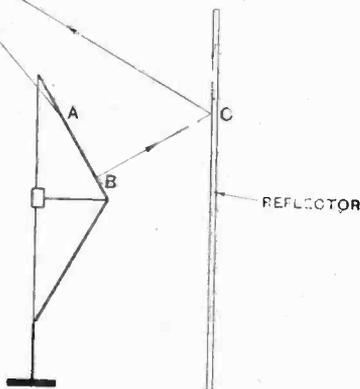
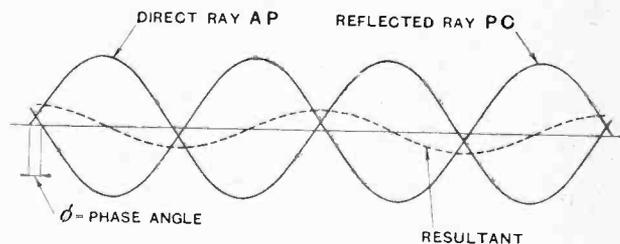

Fig. 4.—Diaphragm loud-speaker with reflector.
Fig. 5.—Curves illustrating low-frequency interference between rays A P and P C in Fig. 4.
The explanation of the action of the reflector has been given before, but the following is more detailed. In Fig. 4 we have a loud-speaker with a wooden board at
the rear about twice the diameter of the diaphragm. During operation, pressure waves are radiated from both sides of the diaphragm. Those at the front are unimpeded by any obstruction, whilst those at the rear meet the board and are reflected therefrom. The result is that part of the sound from the rear is diverted into the same paths as that from the front. Considering the condition at a point, P in Fig. 4, there are two sets of pressure waves—(1) those from the front of the diaphragm; (2) those reflected from the board. The latter having further to travel, arrive at P a little later than the former, and are of opposite sign (see Fig. 5). Thus the two sets of waves are out of phase. At low frequencies the time interval between the arrival of the two sets of waves is small compared with the time taken to execute a semi-cycle. For example, suppose the difference in the lengths of the paths between two particular rays is 1 foot and the frequency is 50 cycles per second. The lateness of arrival is then 1 foot / (vel. of sound) = 1/1,200th sec. Now every half-cycle of the wave occupies 1/100th sec., or twelve times as long, so that to all intents and purposes the waves arrive simultaneously. Bearing in mind that the pressures due to the two waves are of opposite sign—a phase difference of 180°—it is clear that they practically wipe each other out. The effect is gradually reduced as the frequency is increased. This is due to two causes: (a) The low tone radiation spreads out laterally to a much greater extent than that of the high tones, these latter being concentrated in a divergent beam; thus interferences have more chance to occur in the former case; (b) the time interval between the arrival of the interfering waves is comparable with the semi-period at high frequencies. For instance, in the preceding case, at $f=600$ cycles the semi-period and the difference in arrival times are equal. Thus the intensity should increase, for the waves add. The complete phenomenon is really ex-